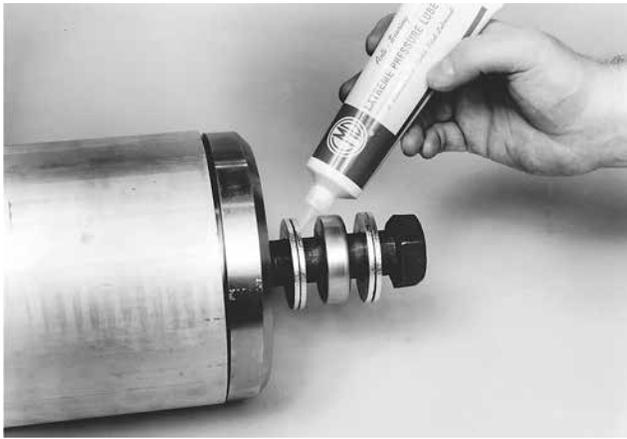

Figure 18: Applying lube to thrust washers
- 6. **Apply** extreme-pressure lube to external surfaces of the thrust washers (Figure 18).